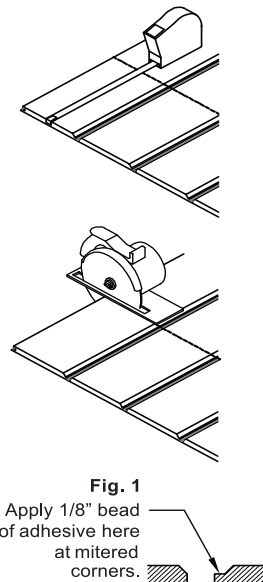
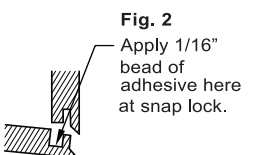

Fig. 1
Fig. 2
Step 2 – Apply a 1/8" bead of adhesive along the total length of each of the 3 v-groove miter joints. (Miter joints are shown in Figure 1.) Apply a 1/16" bead on the inside tongue of the snap lock. (Snap lock is shown in Figure 2.) **(Note: An excessive amount or improper location of adhesive in the v-grooves or snap lock joint may result in a sunken line appearing in the outside surface of the column wrap that runs the length of the column wrap.)**